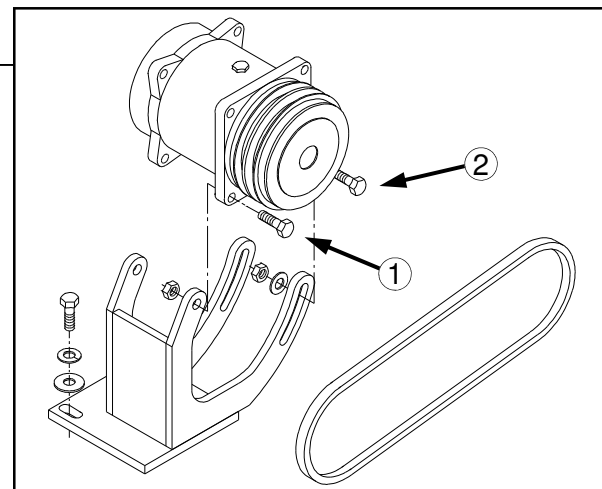

FIG 126-4
**A/C COMPRESSOR BELT**– To tighten air conditioner compressor belt, loosen the two pivot bolts (fig. 126-4, item 1) and the two slide bolts (fig. 126-4, item 2). Using a suitable prying tool, adjust tension on the belt to the desired tautness. While maintaining tension, re-tighten all four bolts. Inspect belt every 250 hours.